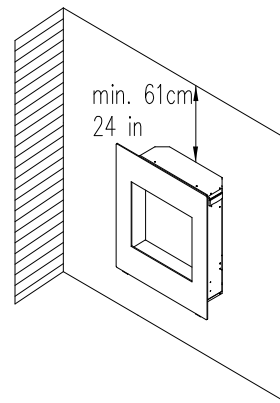

Fig. 1
2. Referring to Fig. 1 right select a suitable position in which to mount the heater horizontally – use a spirit level to achieve this.